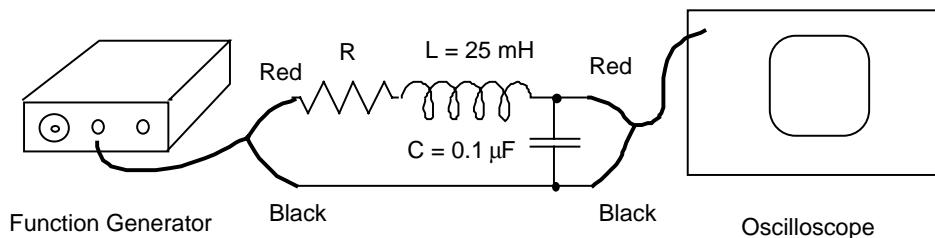

Figure 2. Investigating the LRC circuit
- Assemble the circuit of Figure 2. Use a small value of R , say, 47Ω . Be sure to reduce the signal generator frequency to 100 Hz or below so you can see the entire damped oscillation.